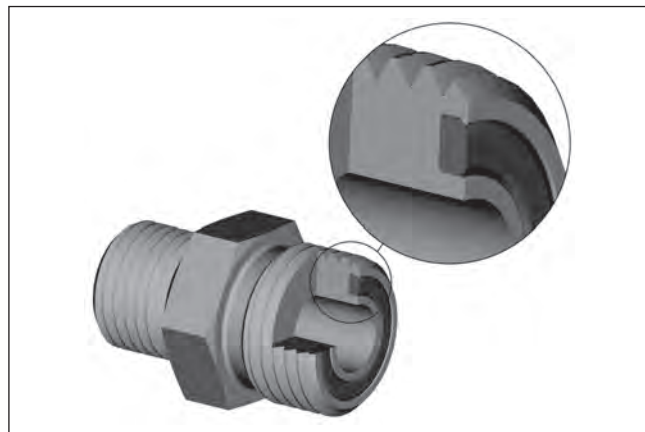

Fig 2 – Captive O-ring Groove (CORG) cutaway
- **CORG Plus** – All Parker O-Lok® fittings are manufactured with the Captive O-Ring Grooves (CORG) as standard. (This is an optional version in ISO 8434-3 and SAE J1453). See fig. 2.